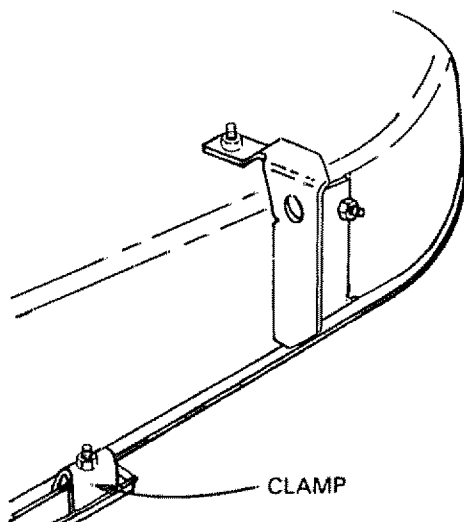

FIGURE 7
- a. Place clamp (Fig. 7) over hole in R.H. baffle (Fig. 7). Bolt head to underside of mower housing. Tighten securely.